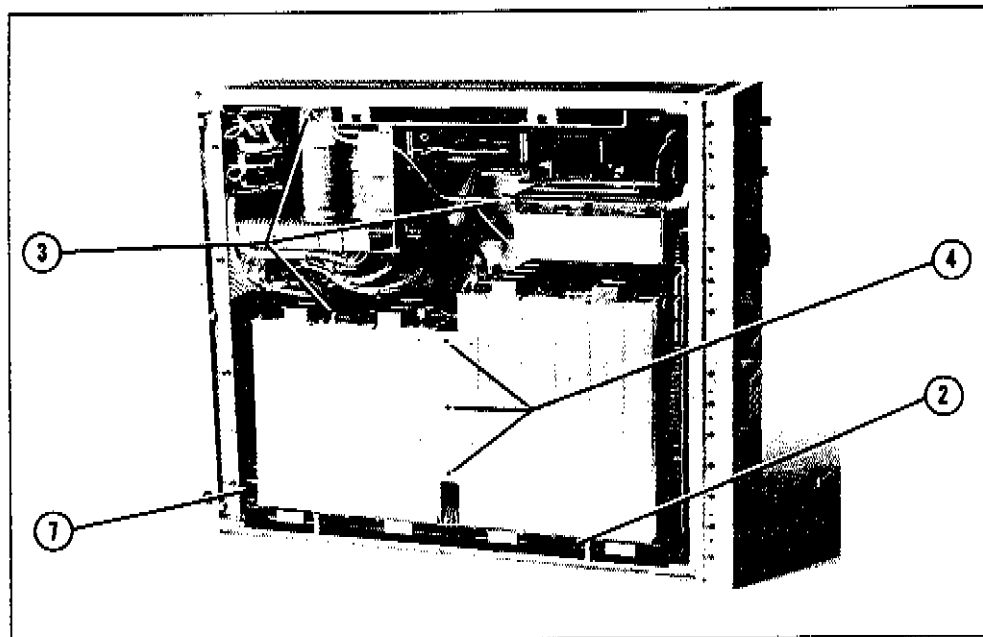

Figure 8-O-3. Module Set-Up Procedure.
2. Disconnect the 40/N MHz cable and the 10 MHz cable from the Mother Board (see Figures 8-O-3 and 8-O-4).
3. Loosen the semi-rigid coax cable connection at the attenuator and disconnect the semi-rigid coax cable connection at the module end (see Figure 8-O-3).
4. Remove the three module hold-down screws from the top of the module (see Figure 8-O-3).
5. Set the instrument on its side as shown in Figure 8-O-3 taking care that the module does not fall out.